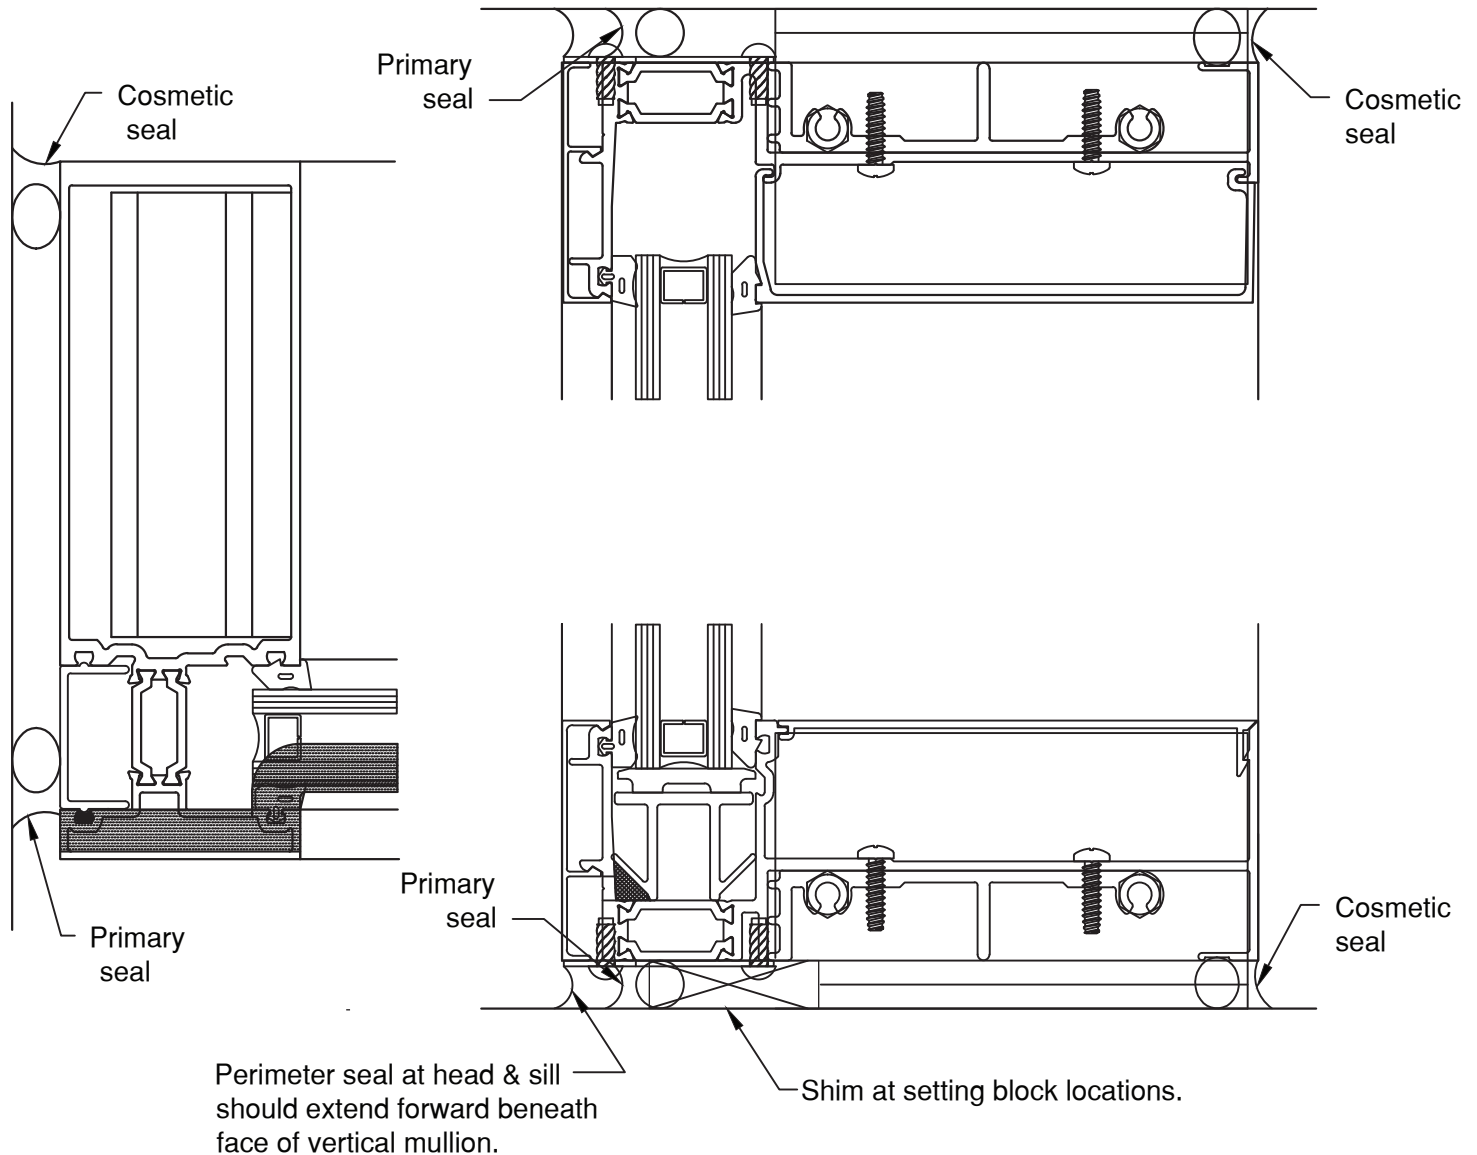

Figure 15
SEE FIGURE 15
- 2.7 When all framing members are installed, apply the perimeter seal. **SEE FIGURE 15.** The interior perimeter seal is not required for system performance, but can be installed for cosmetic purposes.